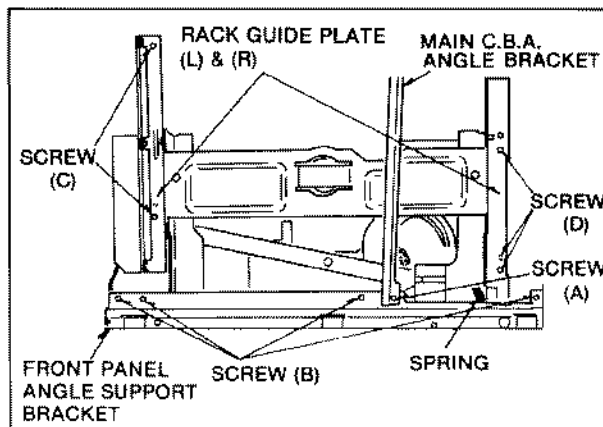

Fig. R4
Then install the Rack Guide Plate (L) and (R) as shown in Fig.R4.
- Remove the Clamp Plate (Refer to Fig. R4 and R5)
- Remove the Spring (A) and then disconnect connector between Servo C.B.A. and Traverse Section.
- Remove 4 screws (A) and then carefully take out the Traverse Section.